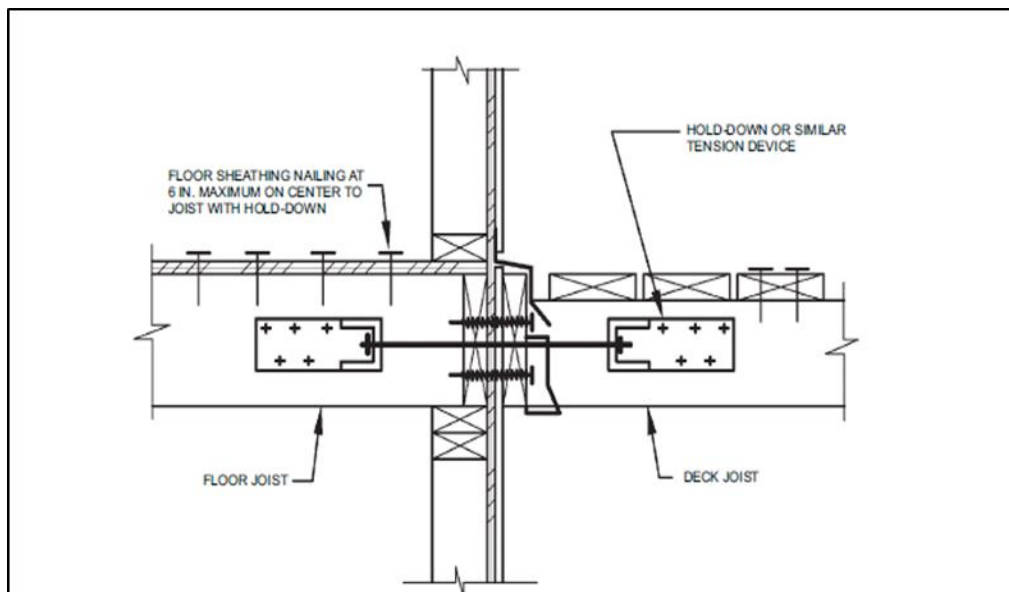

Figure 6a – Lateral Load Connection of Deck Joists to Floor Joists.
**Additional Lateral Attachment Requirements:** Where the ledger board is attached to a band board (figures 5 and 6) additional lateral connections are required from the deck joists to the existing floor joists with tension hold-down devices (see figure 6a). The hold-down devices shall be installed in not less than two locations (within 18 inches of each end of the ledger board). The hold-downs shall have an allowable stress design capacity of not less than 1,500 pounds each. If this detail cannot be installed, separate engineering will be required.